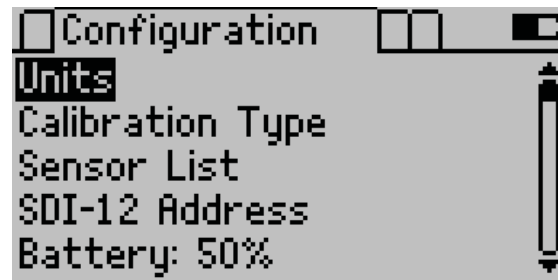

Figure 1 Configuration tab
2. Press **MENU** to navigate to the Configuration tab (Figure 1).